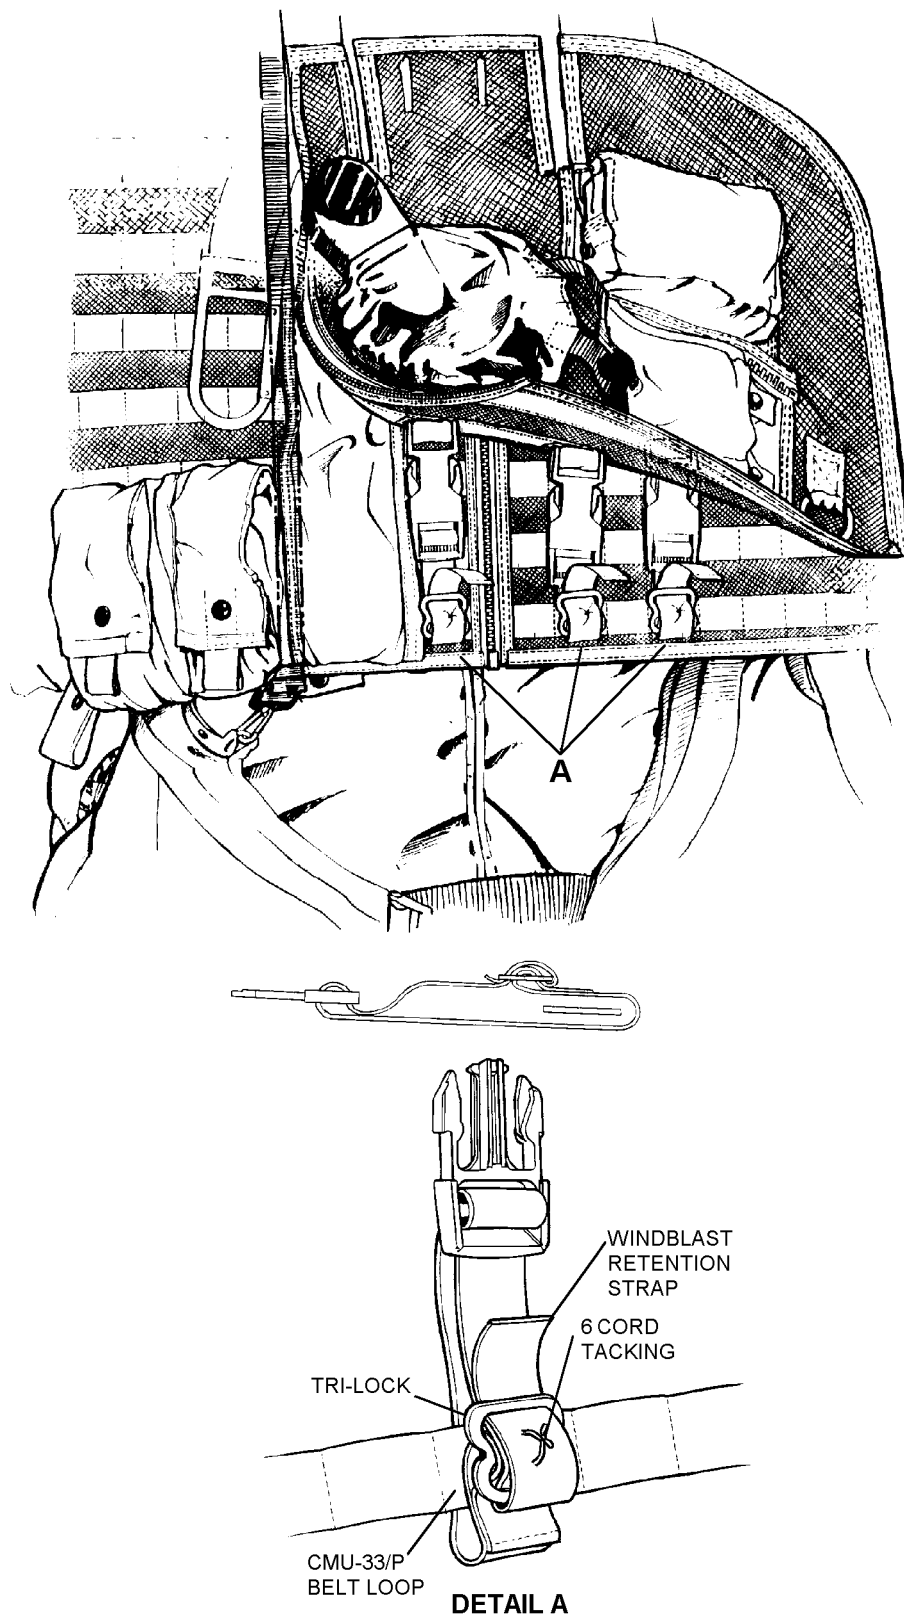

Figure 6-44. CMU-29(V)2/P Overvest Integration with CMU-33/P Vest and Torso Harness
e. Install CMU-29(V)2/P Overvest windblast retention straps (see figure 6-44). For use with CMU-33/P vest, position straps on loops of CMU-33/P vest to ensure alignment for an in-line pull. Connect both halves of retention strap. For use without CMU-33/P, secure windblast retention straps directly to torso harness D-rings. Adjust straps for slight tension.
f. Route excess strap through tri-lock and secure by tacking using waxed 6 cord 1 turn double. Ensure tacking passes through all straps and around tri-lock center bar. Tie off tacking using a surgeon's knot followed by a square knot (see figure 6-44).